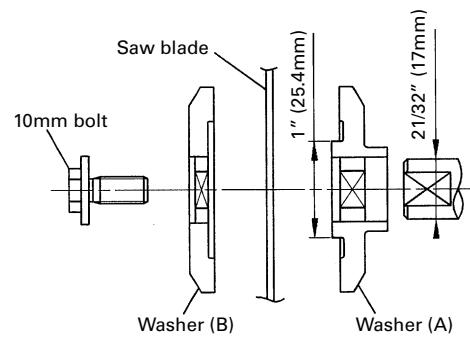

Fig. 44-d
- (7) Press in the spindle lock and tighten the 10mm bolt by turning it to the left by standard accessorie's wrench (17mm wrench) as indicated in Fig. 44-c.